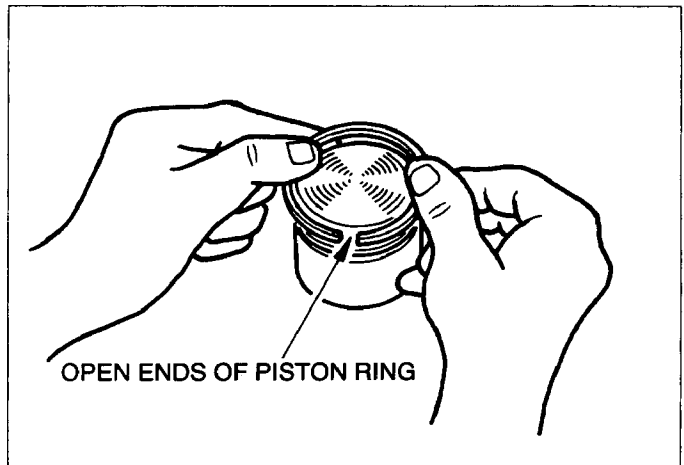

Fig. 5-26
(1) Install oil ring first, then second ring and top ring. Spread ring only far enough to slip over piston and into correct groove. Use care not to distort ring. (See Fig. 5-26.)